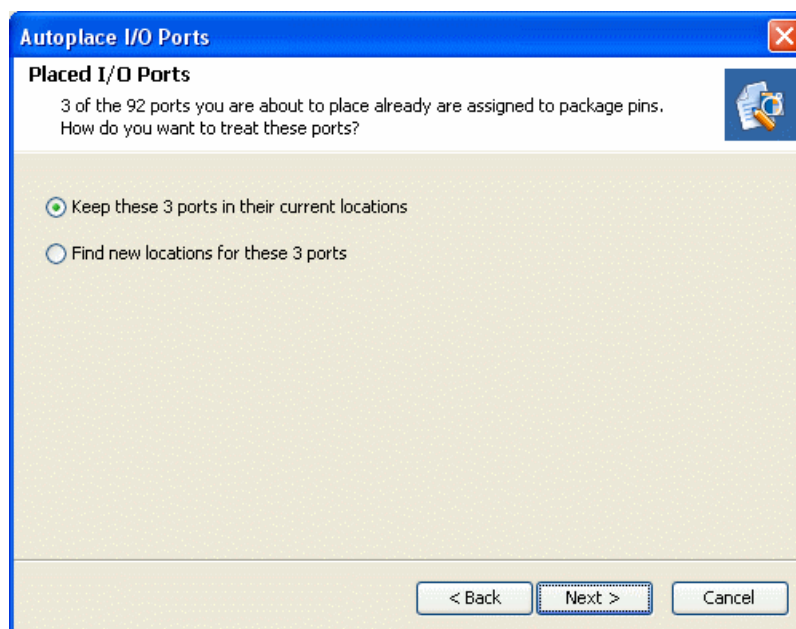

Figure 8-24: Autoplace I/O Ports Wizard
4. If you select I/O ports that have already been assigned to package pins, the dialog box opens, as shown in Figure 8-24.